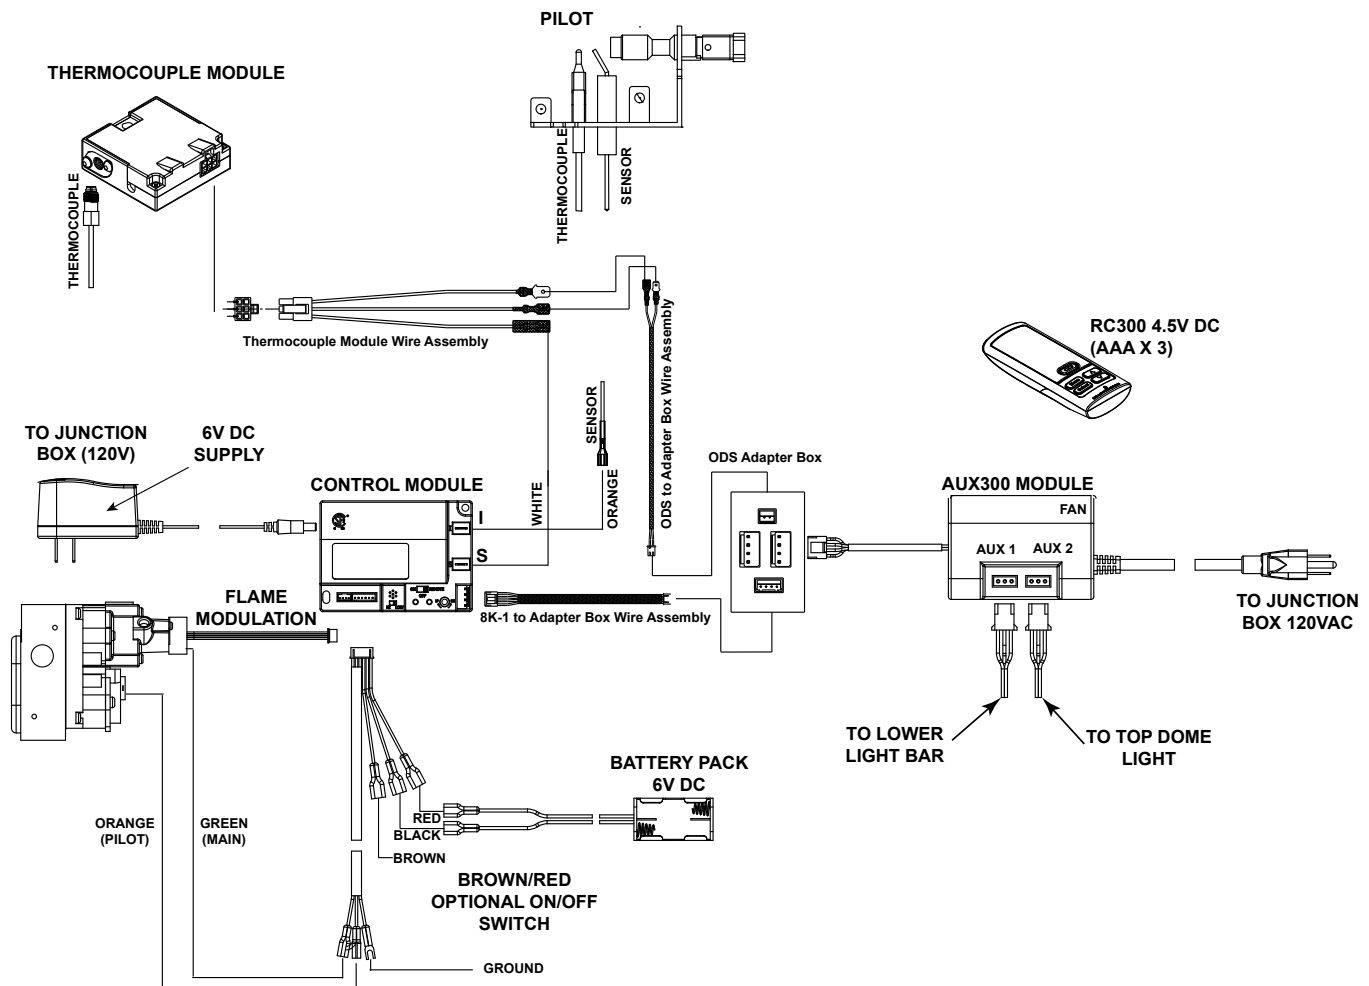

Figure 9 – IntelliFire™ Plus ODS Wiring Diagram
- Refer to Figure 9, IFP ODS Wiring Diagram.